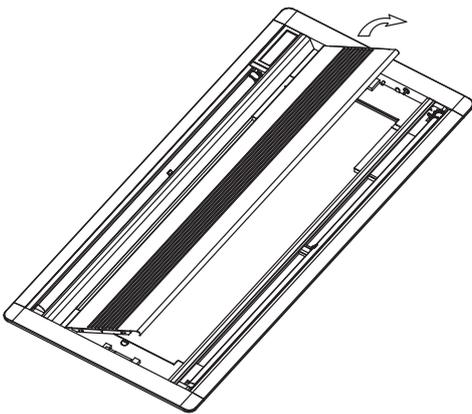

Fig. 5-13
a. The air-in side should face up when using a vacuum cleaner. (Refer to Fig. 5-13)